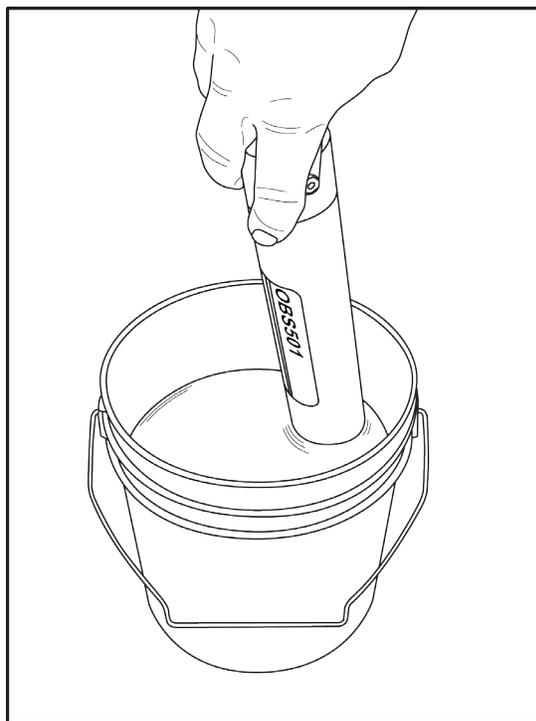

FIGURE 8-4. OBS501 in 500-TU AMCO Clear® turbidity standard in 100-mm black polyethylene calibration cup
3. Position the OBS sensor in the cup as shown in FIGURE 8-4, and record 10 s averages of the low- and high-range outputs. Record the average outputs on the calibration log sheet.